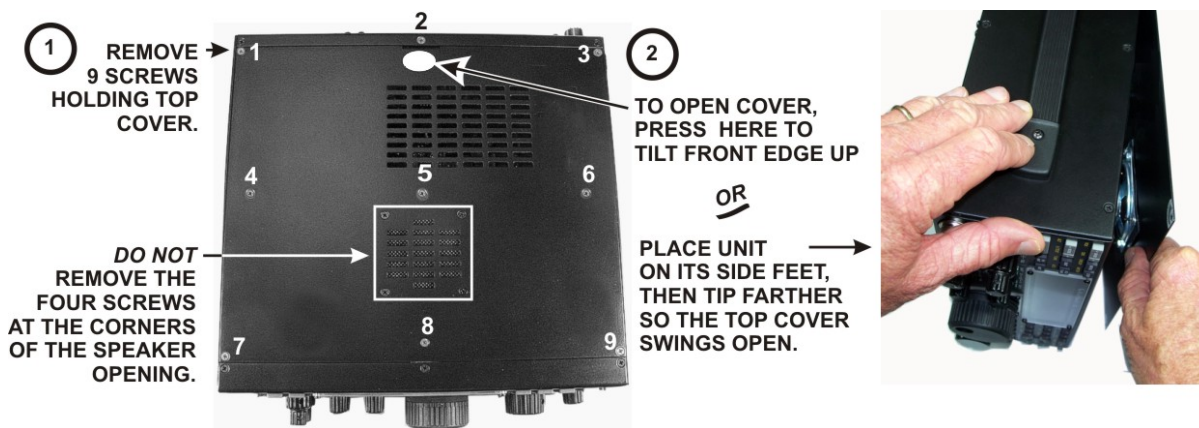

Figure 101. How to Remove the Top Cover.
□ If you have the KPA3A shield installed, place three 4-40 3/16" (4.8 mm) black flat head screws (SS) through the holes across the middle of the cover to secure it to the stiffening bar. If you have not installed the KPA3A shield, the stiffening bar is still attached to the top cover where you mounted it to measure the speaker grill cloth for trimming. Place a 4-40 3/16" (4.8 mm) black flat head screw (SS) into each side panel to secure the ends of the stiffening bar.
*When removing the top cover in the future, the normal procedure is to remove the nine screws on top, leaving the stiffening bar on the chassis (see Figure 101). If the KPA3A 100-watt amplifier is installed, this is the only way the top cover can be removed because the rear shield installed with the KPA3A attaches to the stiffening bar.*